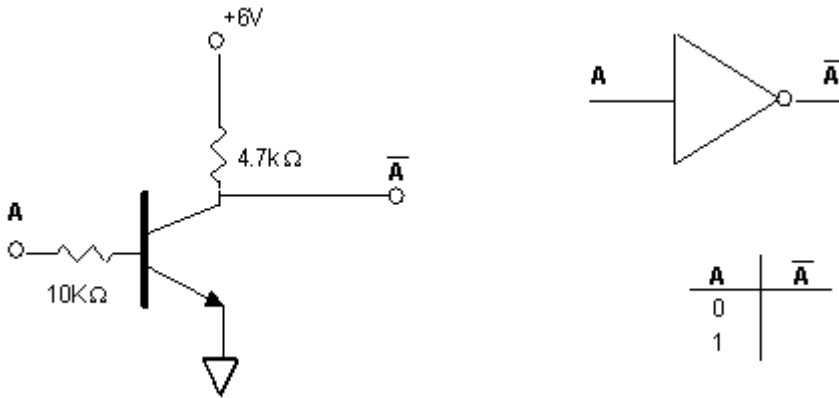

Figure 3. NOT gate implemented using an NPN transistor.
2. The "complement", or opposite, of a logic level is obtained using a NOT gate having logic as shown in Figure 3. Note that a pull-up resistor is used in this circuit rather than a pull-down resistor. When the transistor is OFF, the output signal is pulled HIGH by the resistor. When the transistor is ON, the output signal is LOW since it is connected to ground through the CE junction. The letter with the bar over it means logical complement, or the opposite state, of the logic variable. **Q5:** What would happen if the resistor were removed or replaced by a length of wire? Construct the circuit shown and verify its operation by constructing a truth table indicating the actual voltages measured.